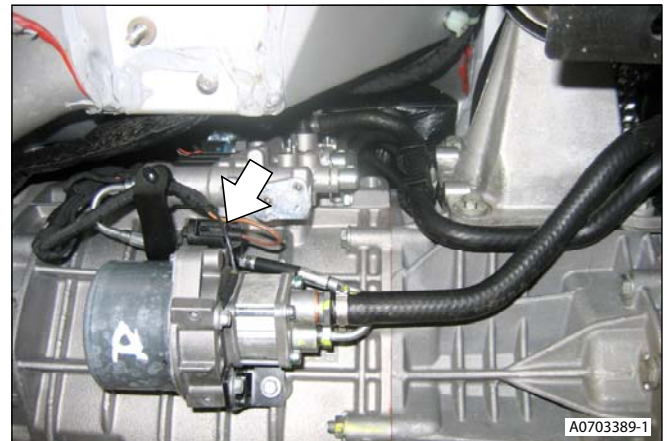

Figure 1
- Disconnect pump multiplug (see Figure 1).